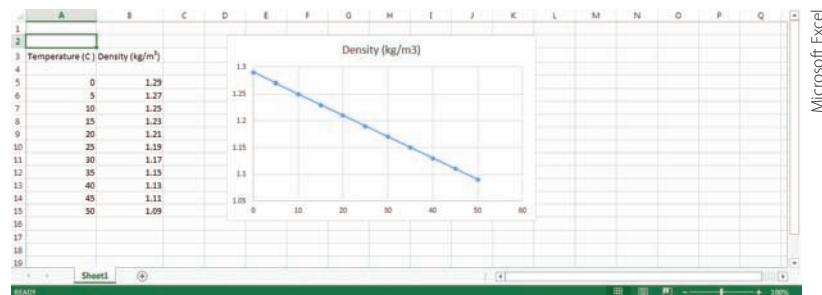

FIGURE 14.17
- You will now see the chart (Figure 14.17). Next, add X-axis and Y-axis Titles and modify the chart title and gridlines as desired. To do so, choose the Layout tab and click on the Axis Titles button, Chart Title button, and Gridlines.